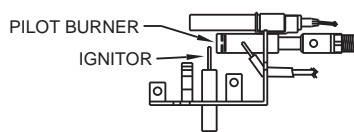
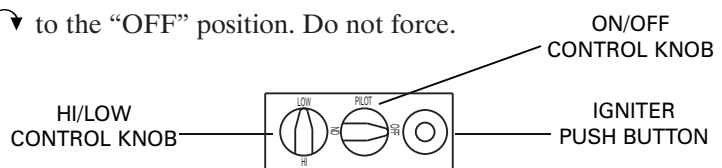

Fig. 3
Fig. 4
10. After lighting the pilot, turn the ON/OFF control knob (FIG. 4 on page 9) to the ON position and the thermostat ON/OFF lever to the ON position. Adjust the temperature lever to the desired position. You can now adjust the HI/LOW knob to the desired level. If you have the HI/LOW control knob on “HI” the log set will burn on high flame when the thermostat calls for heat. If you have the HI/LOW control knob on “LOW” the log set will burn on low flame when the thermostat calls for heat.
12. *It is recommended that the ON/OFF control knob (FIG. 4 on page 9) on the control valve be turned to the “OFF” position when leaving home for any period of time.*
4. After lighting the pilot, turn the ON/OFF control knob (FIG. 4 on page 9) to the “ON” position. You may now operate your log set according to the remote control instructions. You can now adjust the HI/LOW knob to the desired level. If you have the HI/LOW control knob on “HI”, the log set will burn on high flame when the remote control calls for heat. If you have the HI/LOW control knob on “LOW” the log set will burn on low flame when the remote control calls for heat.
5. *It is recommended that you turn the ON/OFF control knob (FIG. 4 on page 9) on the control valve to the “OFF” position when leaving home for any period of time.*
3. Turn ON/OFF control knob (FIG. 4) clockwise ↻ to the "OFF" position. Do not force.
4. Wait five (5) minutes to clear out any gas. Then smell for gas, including near the floor. If you smell gas, STOP! Follow "B" in the safety information above on this label. If you don't smell gas, go to the next step.
5. Locate pilot (Fig. 3) - mounted on the outside of the right hand bracket that holds the burner in place, just behind the front part of the burner.
6. Turn ON/OFF control knob (FIG. 4) counterclockwise ↺ to the "PILOT" position.
7. Push down on ON/OFF (FIG. 4) control knob until it stops and hold down. While still holding down on the knob, press down on the igniter push button (FIG. 4) several times. This will cause a spark at the pilot burner which will ignite the pilot flame. Continue to hold the ON/OFF control knob (FIG. 4) down for about (1) minute after the pilot is lit. Release knob and it will pop back out. Pilot should remain lit. If it goes out, repeat steps 1 through 6.
- ◆ **LIGHTING PILOT WITH MATCH:** Remove screen from the front of the heater. Turn ON/OFF control knob (FIG. 4) counterclockwise ↺ to "PILOT". Place a lit match at the pilot burner, then push the ON/OFF control knob (FIG. 4) down until it stops. Continue to hold the control knob in for about one (1) minute after the pilot is lit. Release knob and it will pop back out. Pilot should remain lit. If it goes out, repeat the above step.
- ◆ If the pilot will not stay lit after several tries, turn the ON/OFF control knob (FIG. 4) clockwise ↻ to "OFF" and call your service technician or gas supplier.
9. Adjust the heater to high or low by turning the HI/LOW control knob (FIG. 4).
Turn ON/OFF control knob (FIG. 4) clockwise ↻ to the "OFF" position. Do not force.